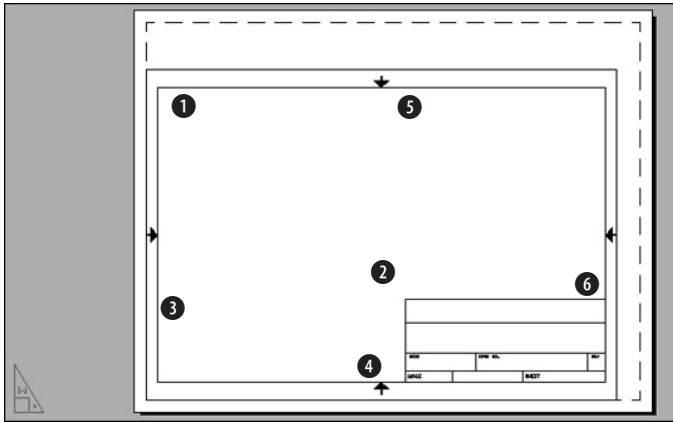

Figure 17-12: The title block inserted into paper space
7. Choose **Insert** ⇨ **Block** to open the Insert dialog box. Click **Browse**. Choose `ab-a-blk.dwg` from the CD-ROM and click **Open**. In the **Insertion Point** section of the dialog box, uncheck **Specify On-Screen**. Click **OK**. AutoCAD inserts the title block, as shown in Figure 17-12.
9. Choose **View** ⇨ **Viewports** ⇨ **1 Viewport**. (Turn **OSNAP** off if it is on.) At the **Specify corner of viewport or [ON/OFF/Fit/Shadeplot/Lock/Object/Polygonal/Restore/2/3/4]** <Fit>: prompt, choose ❶ in Figure 17-12. At the **Specify opposite corner:** prompt, choose ❷.
10. Click the right mouse button and then choose **Repeat 1 Viewport**. At the prompt, choose ❸ in Figure 17-12. At the next prompt, choose ❹ in Figure 17-12. Again repeat the command and choose ❺ and ❻ in Figure 17-12. You now see the drawing in the three viewports.